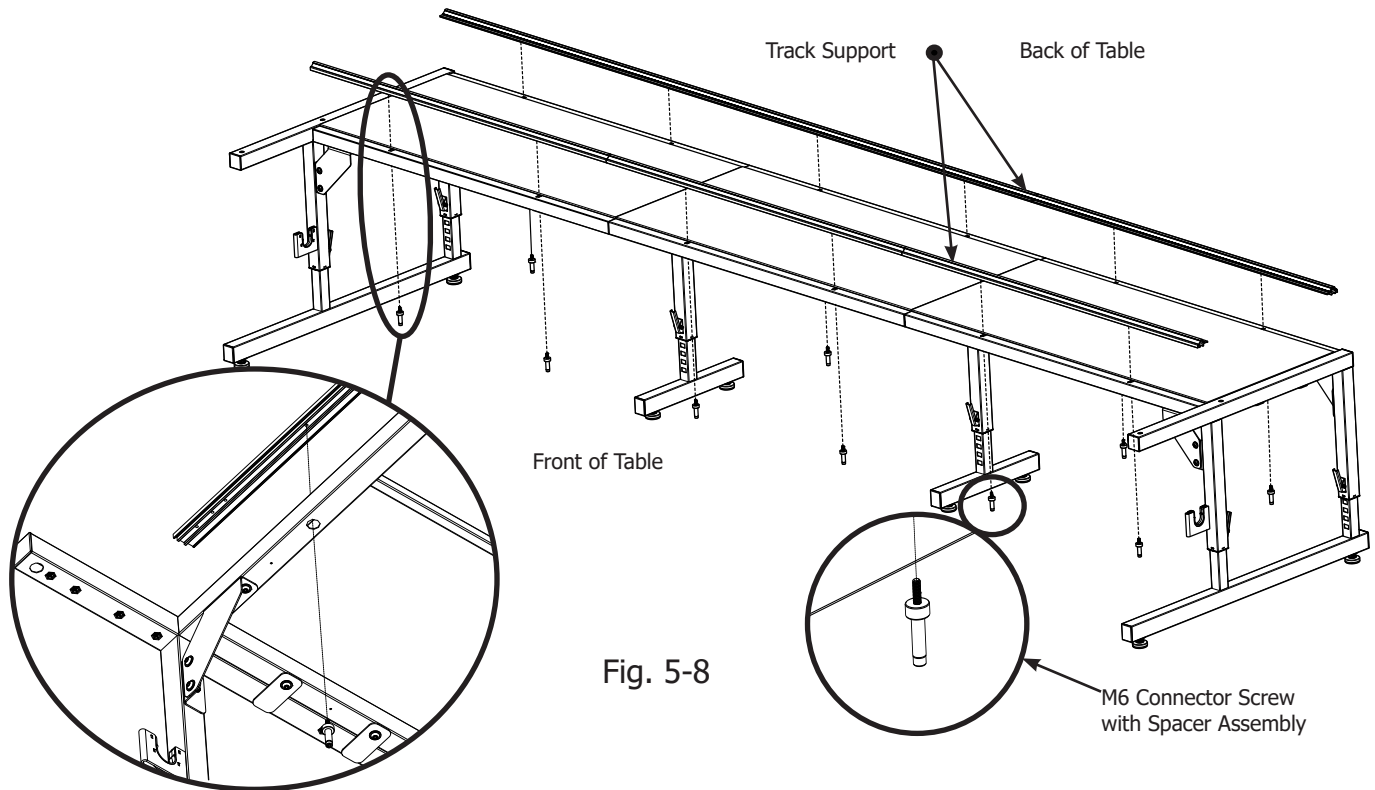

Fig. 5-8
5-9: Attach Tracks. Secure one assembled track to the back of the quilting frame. Line up the track support by holding it tightly against the plastic tabletop as you secure it to the frame using six (6) M6 connector screw with spacer, as shown in Fig. 5-8. **Do not tighten screws at this time.** They need to be loose to accommodate adjustments in **Step 5-10.** In same manner, attach the remaining track support to the front of the frame using six (6) M6 connector screw with spacer.